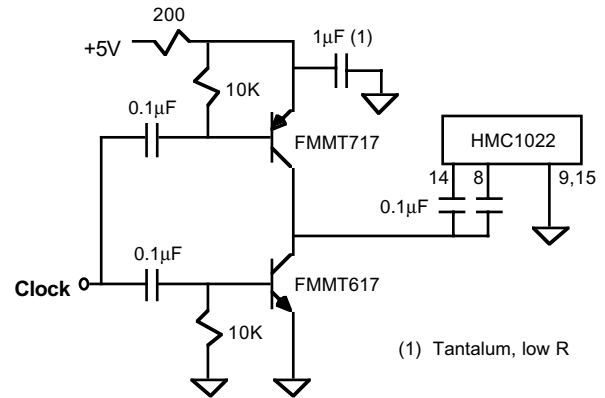

**Figure 10—Single Clock Set/Reset Circuit (1001/1002)**
**Low Cost**—For minimum field measurements above 500  $\mu$ gauss, a less elaborate pulsing circuit can be used. In both Figures 10 and 11, the pulse signal is switched using lower cost Darlington transistors and fewer components. This circuit may have a more limited temperature range depending on the quality of transistors selected. If accuracy is not an issue and cost is, then the reset only circuit in Figure 11 will work.